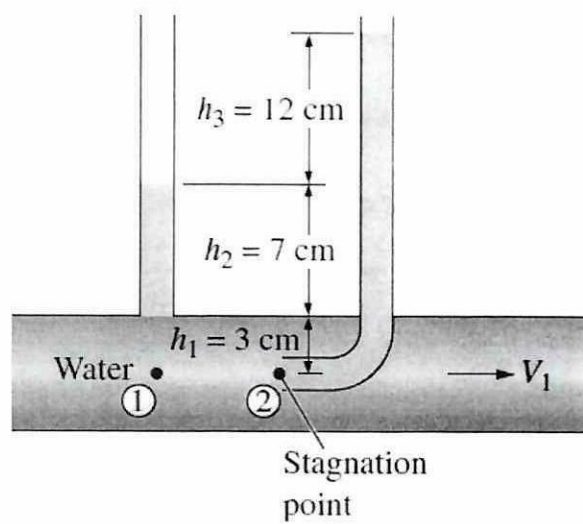

Figure Q4 (a)
- Q4** (a) A piezometer and a Pitot tube are tapped into a horizontal water pipe as shown in **Figure Q4 (a)** to measure static and stagnation pressure. Determine the velocity at the center of the pipe. (8 marks)